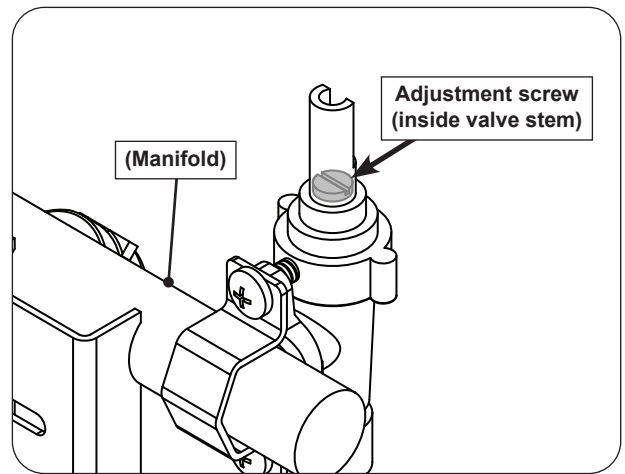

Fig. 31-1 Valve adjustment screw location
3. Locate the FLATHEAD adjustment screw found inside the valve stem (see Fig. 31-1).